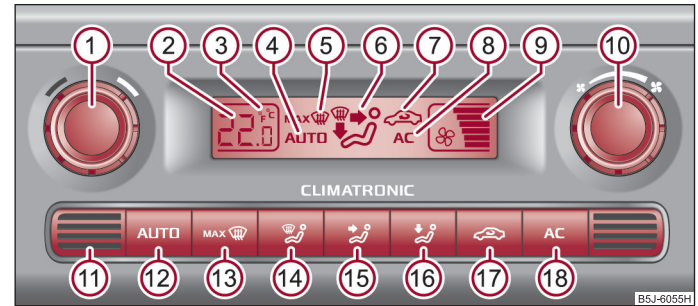

Fig. 92 Climatronic: Control elements
- Press the button **AUTO** ⇒ fig. 92.
Press and hold the buttons **AUTO** and **AC** ⇒ fig. 92 at the same time. The information in the desired temperature measuring unit appears in the display.
- Press the button **MAX** ⇒ page 87, fig. 92.
- Turn the control dial 10 ⇒ page 87, fig. 92 to the left (reduce blower speed) or right (increase blower speed).